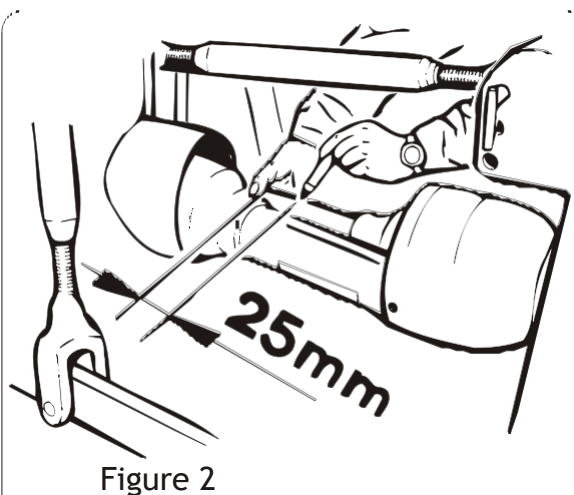

Figure 2
2. Leave a 25 mm margin on the shaft and mark the cutting points (Figure 2).